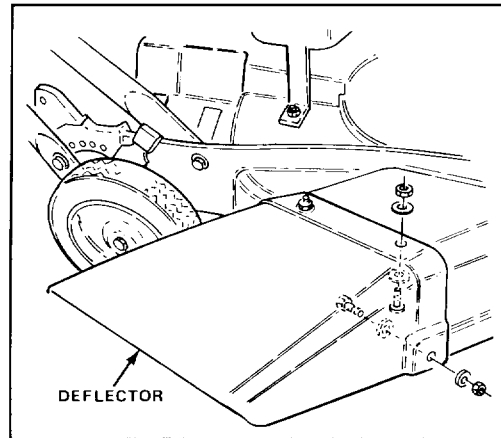

Figure 4
1. Position the deflector onto mower housing opening and align mounting holes (Fig. 4).